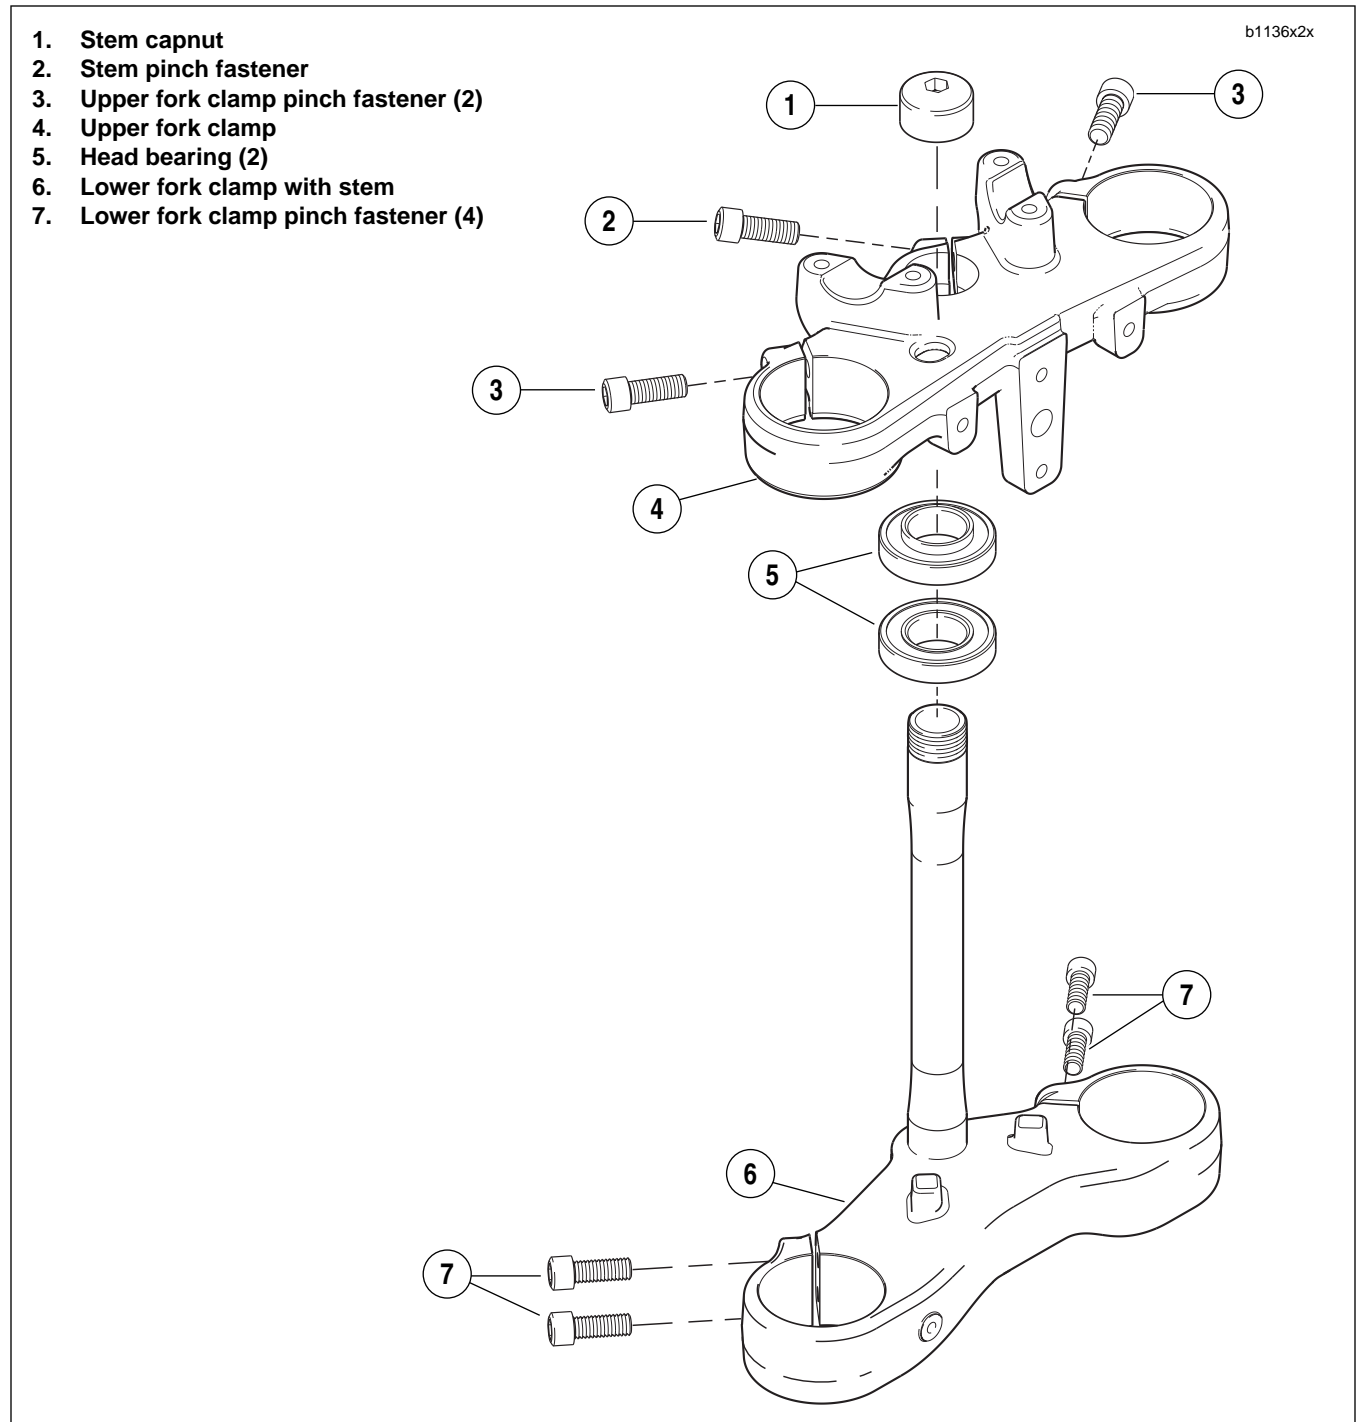

Figure 2-78. Steering Stem Assembly
5. See Figure 2-78. Remove steering stem pinch fastener (2).
6. See Figure 2-78. Hold or brace the lower fork clamp and remove steering stem capnut (1).
7. Remove the upper fork clamp (4).
8. Remove the lower fork clamp (6).
1. See Figure 2-78. Install the lower fork clamp (6) into the steering stem bore and install the upper fork clamp (4).
2. Install steering stem capnut (1). Tighten but do not torque.
- a. See Figure 2-78. Loosen steering stem pinch fastener (2) and upper and lower fork clamp pinch fasteners (3, 7).
- b. Brace wheel while removing steering stem capnut fastener (1).
- c. Remove upper fork clamp (4) and front-end assembly which includes front wheel, steering stem/lower fork clamp.
5. Remove upper and lower steering head bearings (5).